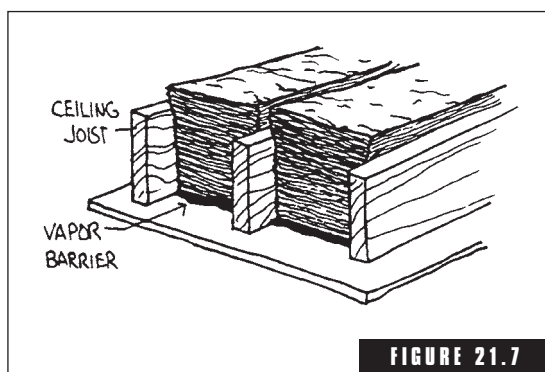

FIGURE 21.7
1. The most common method of insulating an attic is to staple blanket insulation between the ceiling joists with the vapor barrier on the side closest to the home's living areas (Fig. 21.7). Attic insulation should be at least 15-½ to 18 inches of standard fiberglass batts. In cold-climate areas consider insulation with even greater R-values.